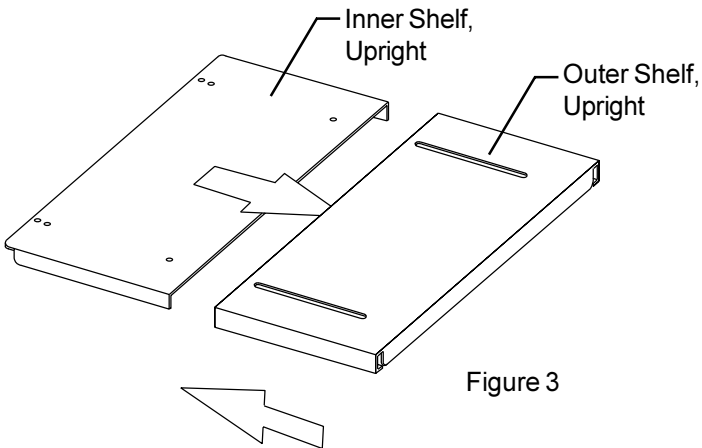

Figure 3
Position the uprights (inner and outer) to slide together as shown in Figure 3. Install the 1/4-20 hardware (KK) **Do not tighten**. Adhere (2) 1/2" Dia. rubber feet (LL) approximately as shown in Figure 4.